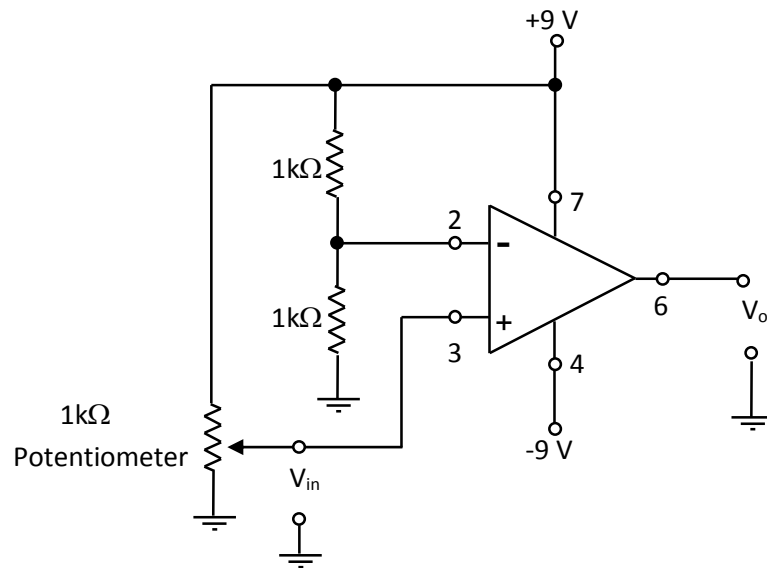

Figure 5: Circuit diagram of the voltage comparator
1. Connect the circuit shown in Figure 5. Show the circuit to your demonstrator before turning on the power to the circuit.